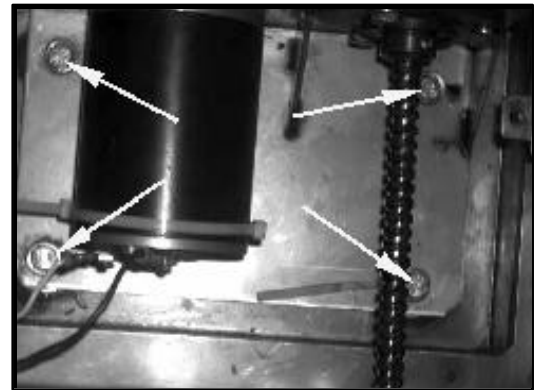

FIGURE 4-7: MOTOR BRACKET
- g. Refer to **Figure 4-7**. Remove four bolts fastening motor bracket to enclosure.